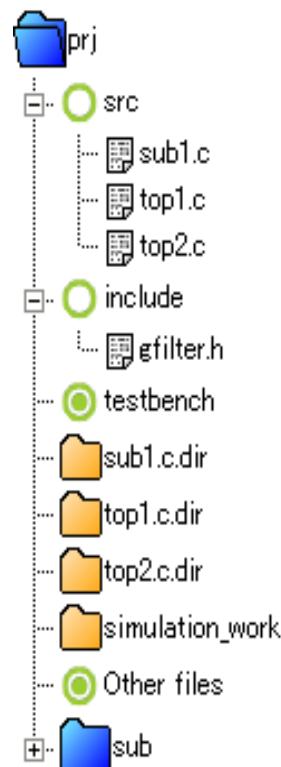

Figure 4-2 Intermediate projects
- In intermediate project, there is src folder that keeps source files of BDL, SystemC, include folder that keeps include files, as well as testbench folder that keeps testbench files. Details of src and include are explained in section 4.1.4. Details for testbench are explained in section 4.1.4. Virtual folder icon is used as shown in Figure 4-2, because there is no directory corresponding to src, include and testbench in actual file system. When a new source file, include file, testbench file is created or imported by copy format, these files exist under directory corresponding to intermediate project (section 4.2). In case files are imported by reference format of relative path or full path, the files do not exist under project and whenever corresponding files in CWB-gui are accessed, imported files are sequentially referred (section 4.3.3).
- In intermediate project, there is "Other files" folder that keeps files other than source files and include files. Virtual folder icon as shown in Figure 4-2 is used because directory corresponding to the "Other files" folder does not exist in the actual file system. All files shown in "Other files" exist (section 4.2) under the directory corresponding to intermediate project.
- Work folder of each source file exists in intermediate project. In Figure 4-2 there are three source files under src i.e. sub1.c, top1.c, top2.c. At this time, work folder sub1.c.dir, top1.c.dir, top2.c.dir, corresponding to these source files, are generated under prj. Work folders corresponding to source files are generated under directory equivalent to intermediate project even in actual file system (Section 4.2).
- In case of ASIC, it is possible to have another different intermediate project under a certain intermediate project, as sub-hierarchy. Figure 4-2 shows that intermediate project sub is kept under intermediate project prj, as sub project. Even in actual file system, sub-hierarchy intermediate project is generated under directory equivalent to intermediate project (section 4.2) .
- In RTL project, there is an "Other files" folder that keeps files other than source files. Virtual folder icon as shown in Figure 4-2 is used because directory corresponding to the "Other files" folder does not exist in actual file system. All files shown in "Other files" exist (section 4.2) right under the directory corresponding to RTL project.